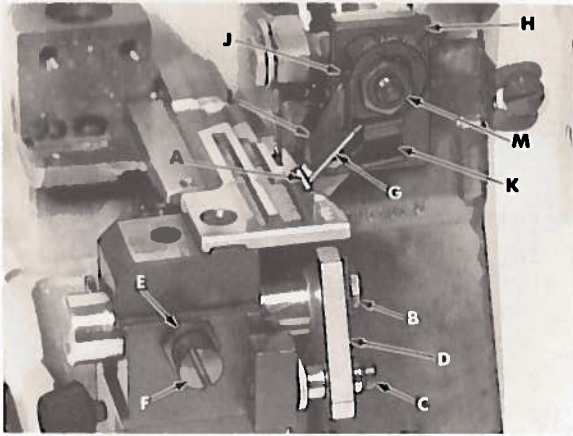

Fig. 16
Cutting edge of knife (A, Fig. 16) must be even and parallel with top surface of throat plate. Examine sewn sample for specified seam width and appearance. If adjustment is required, loosen screw (B) and adjust knife (A) up or down until its cutting edge is flush with top of throat plate, then tighten screw (B).
At lowest position the front tip of upper knife cutting edge must extend $1/64$ - $1/32$ inch (.4 - .8mm) below cutting edge of lower knife. If adjustment is required, rotate handwheel to position upper knife driving arm at lowest position; with upper knife (G, Fig. 16) at lowest position of travel and while holding upper knife firmly against lower knife, adjust knife holder (H) left to right, to position front tip of upper knife cutting edge $1/64$ - $1/32$ inch (.4 - .8mm) below cutting edge of lower knife, then tighten screw (J).